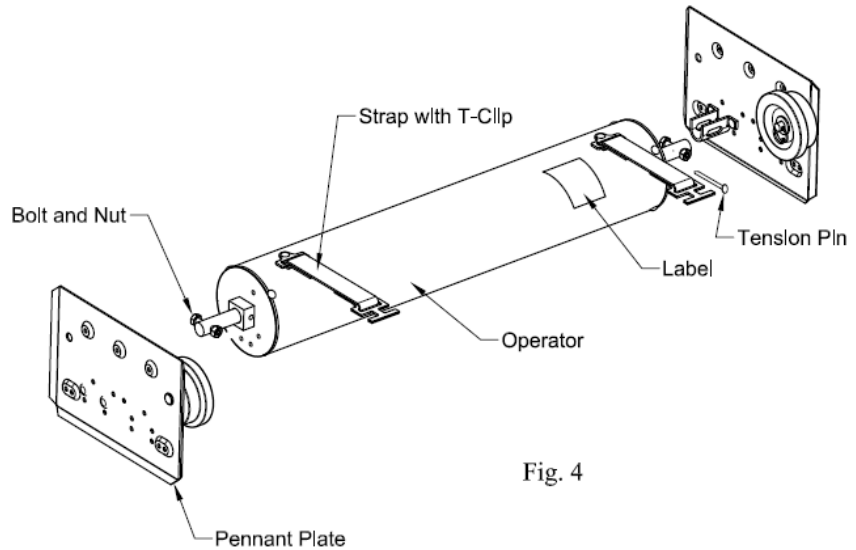

Fig. 4
- a) Place the operator shaft into the u-brackets on the pennant plates. The label will be on the right while looking into the compartment as shown in Fig. 4